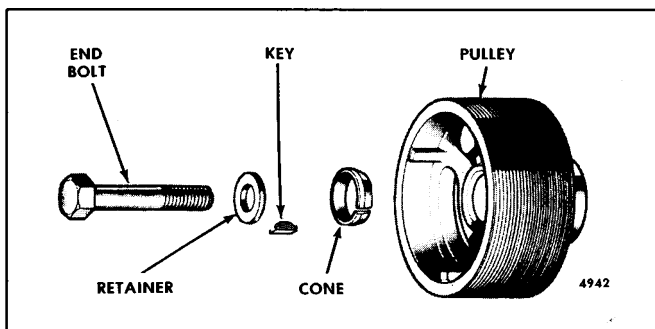

Fig. 2 - Crankshaft Pulley Details and Relative Location of Parts
2. Remove the pulley retaining bolt and retainer (Fig. 2).